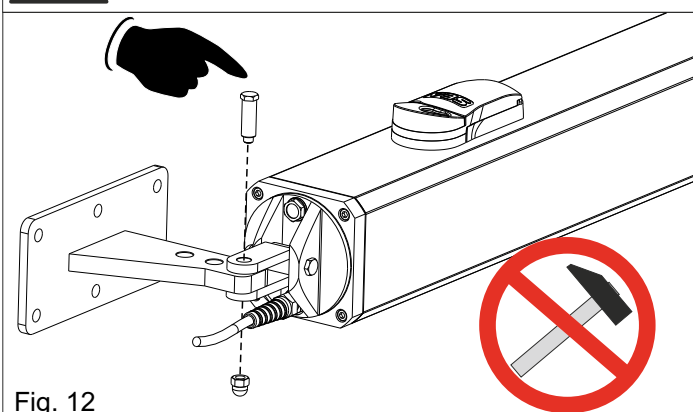

Fig. 12
- Place the swing fork on the rear bracket as shown in Fig. 12;
- Insert the short brass pin between the fork and the bracket using only manual pressure (Fig. 12)
- Secure the pin with the nut (Fig. 12)